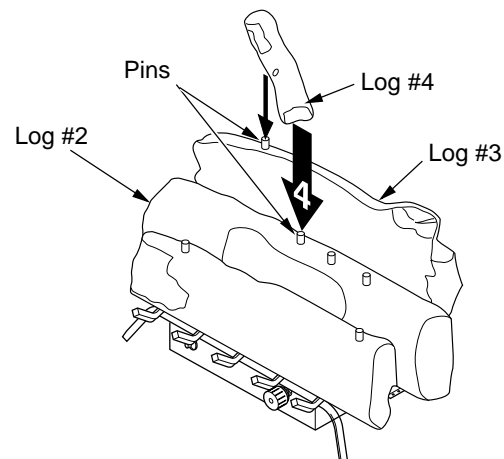

Figure 31 - Installing Crossover Log (#4) (CCL3930PTA Shown)
4. Locate holes on the bottom of crossover log (#4). Slide front hole onto the left pin (CCL3924PT or CCL3930PTA) or middle pin (CCL3018P or CCL3018PT) on the middle log (#2) and the pin on the back log (#3). See Figure 31 for placement.